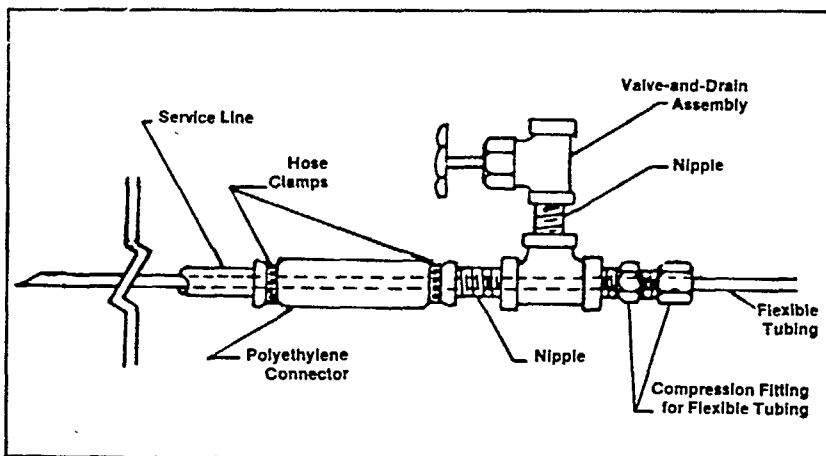

Figure 3 Close-up detail of the valve-and-drain assembly.
3. On the service pipe, install the valve-and-drain assembly (shown in Figure 3).